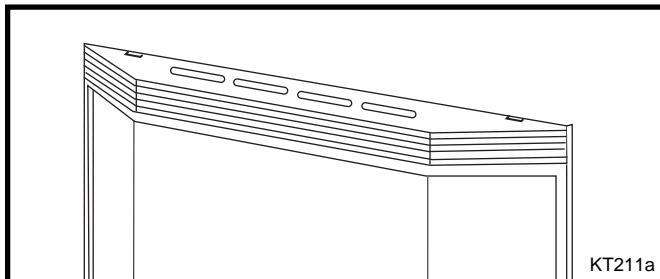

Fig. 35 Engage the slots in the upper grille top louvre with the upper tabs of the hanging brackets.
6. Install top louvre by engaging the oblong holes with the upper tabs of the hanging brackets, as shown in Figure 35.